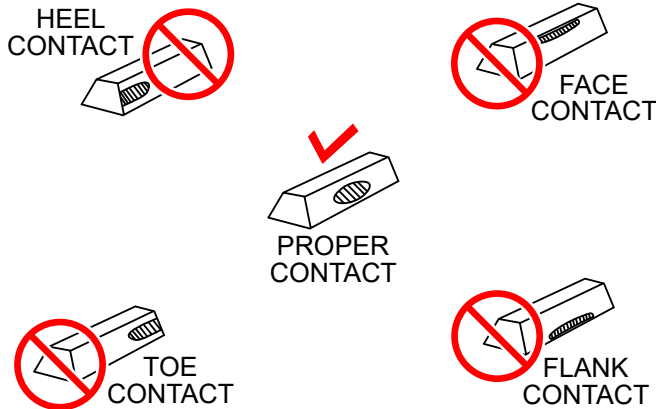

Figure 48. Gear Teeth Alignment
3. If the gear teeth are not contacting properly (Figure 48), adjust the pillow block to correct the problem.